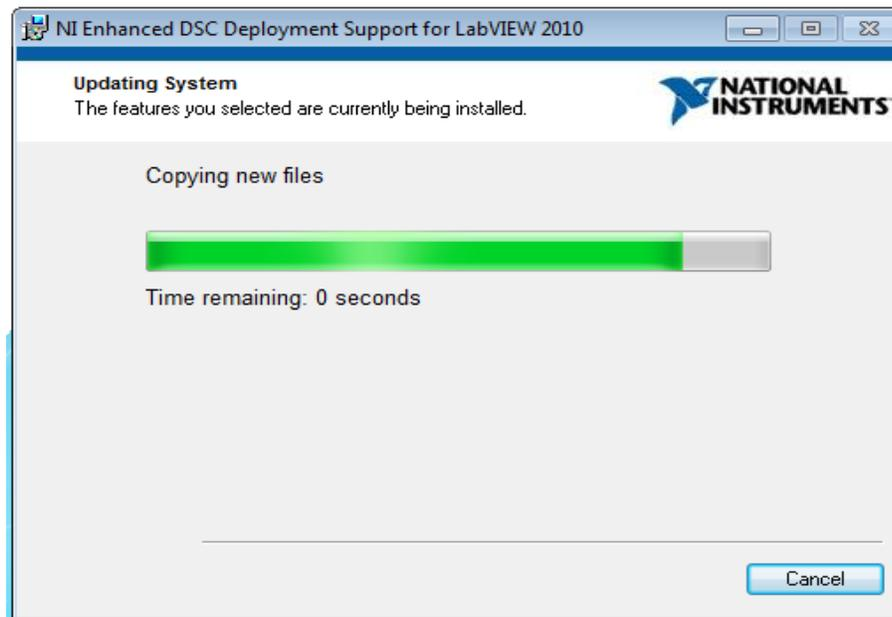

Figure 1-19 Installation in Progress
- The installer will begin self-extraction and proceed with the installation as shown in Fig.1-19